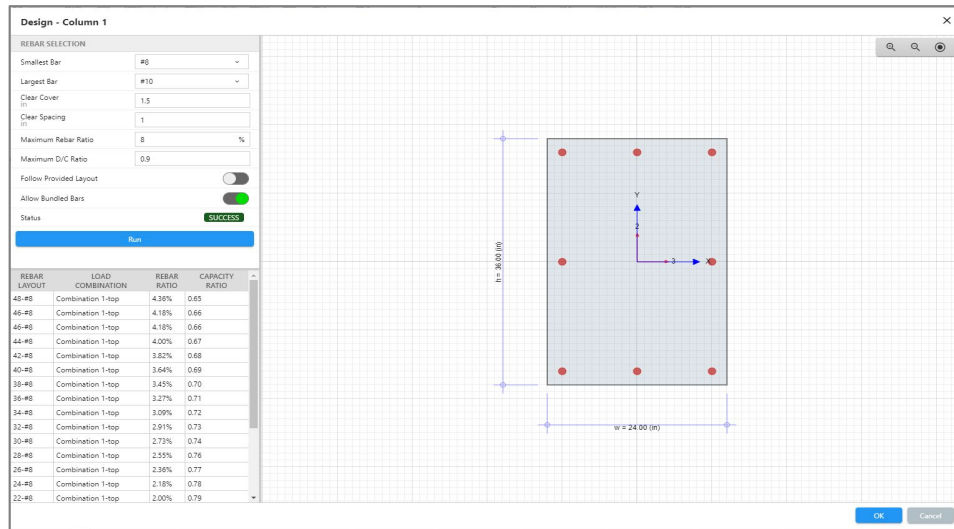

Figure 3.12 CSiCol Auto Design
2. Click on the *Auto Design* button to access the *Design* form (Figure 3.12).